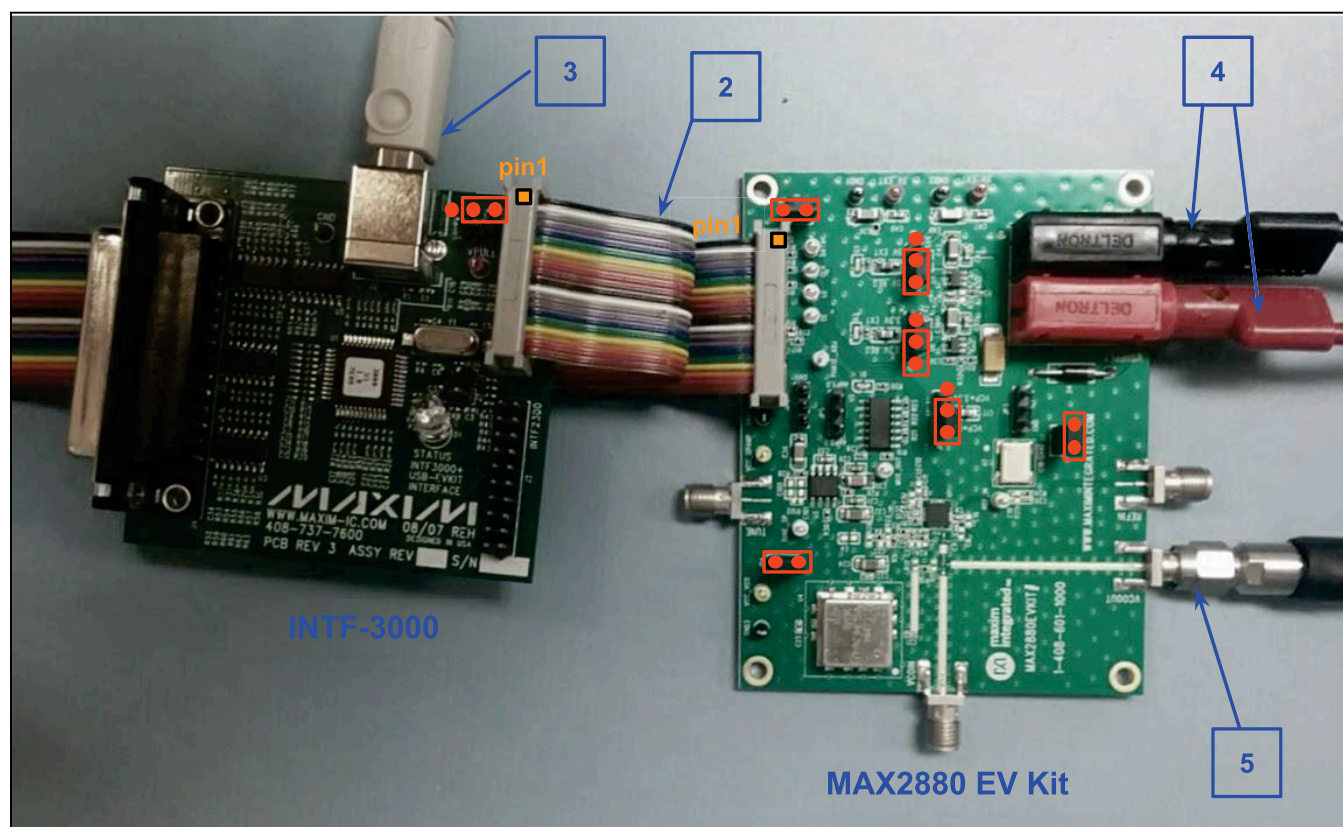

Figure 2. Hardware Setup and Default Jumper Position
- 1) Verify that all jumpers are in their default positions, as shown in Figure 2.
- 2) Connect the 20-pin cable between the INTF-3000 board and the EV kit; verify the pin 1-1 connections, as shown in Figure 2.